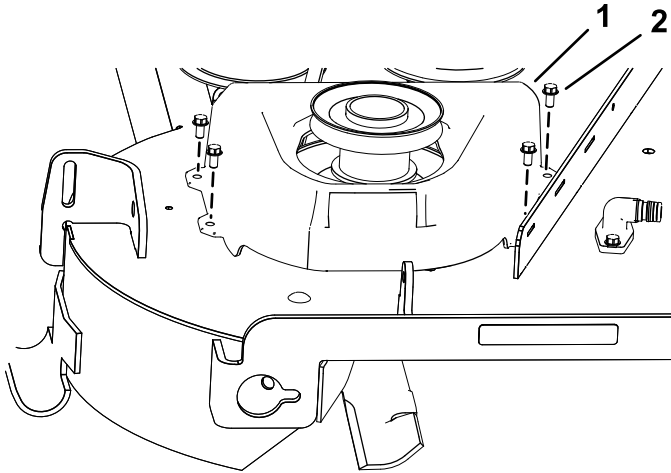

Figure 11
- Install the new belt cover over the pulley assembly using the 4 previously removed screws (1/4 x 1/2 inch) as shown in Figure 11.